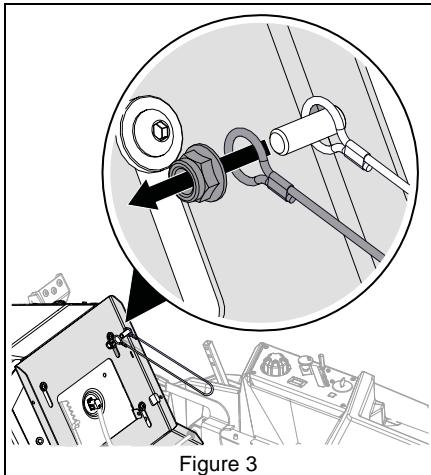

Figure 3
1. Remove nut and one end of seat cable. Reinstall nut to secure remaining cable end to seat plate. See Figure 3.